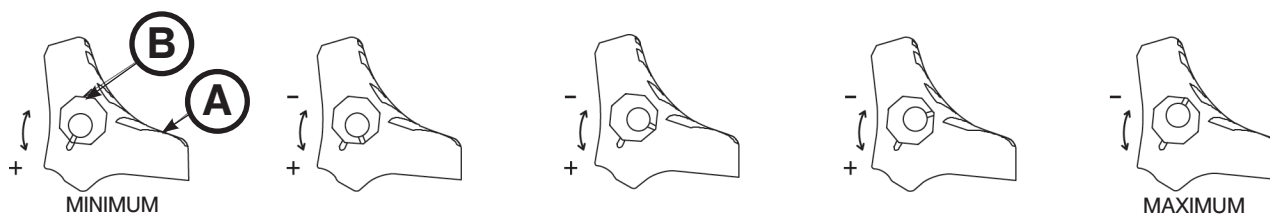

Figure 70
1. Using the 5/32" hex wrench and 7/16" combination wrench or socket, remove the socket screw from the center of the lock pedal. The wheel lock is initially assembled with the pedal set at the minimum locking force. The marker on the pedal (A) is aligned with the marker on the octagonal sleeve (B) (Figure 70).
2. Remove the sleeve (B). Rotate the sleeve counterclockwise to increase the pedal locking force and clockwise to decrease the locking force. Insert the sleeve into the pedal (Figure 70).